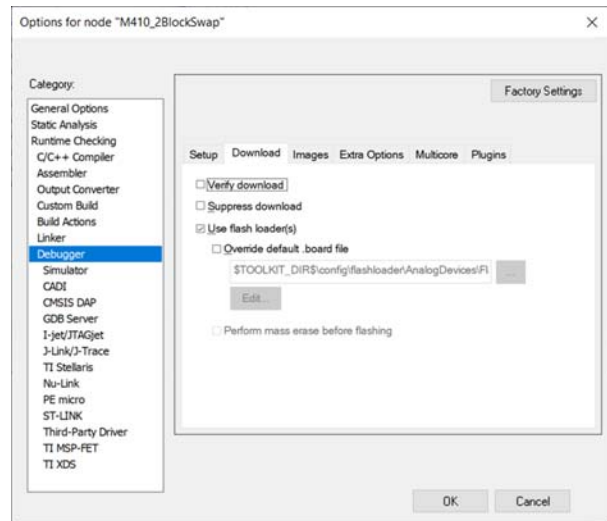
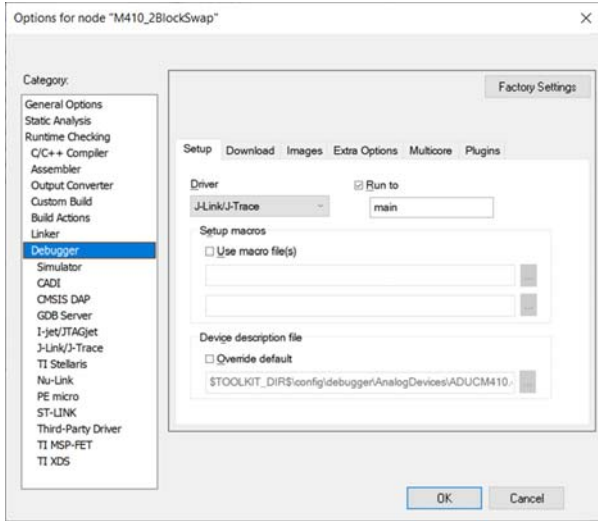

Figure 14. Debugger Configuration
Figure 15. J-Link/J-Trace Selected in Setup Tab
- Check the **Debugger** settings and ensure that all settings match those shown in Figure 14 and Figure 15 in the **Download and Setup** tabs.